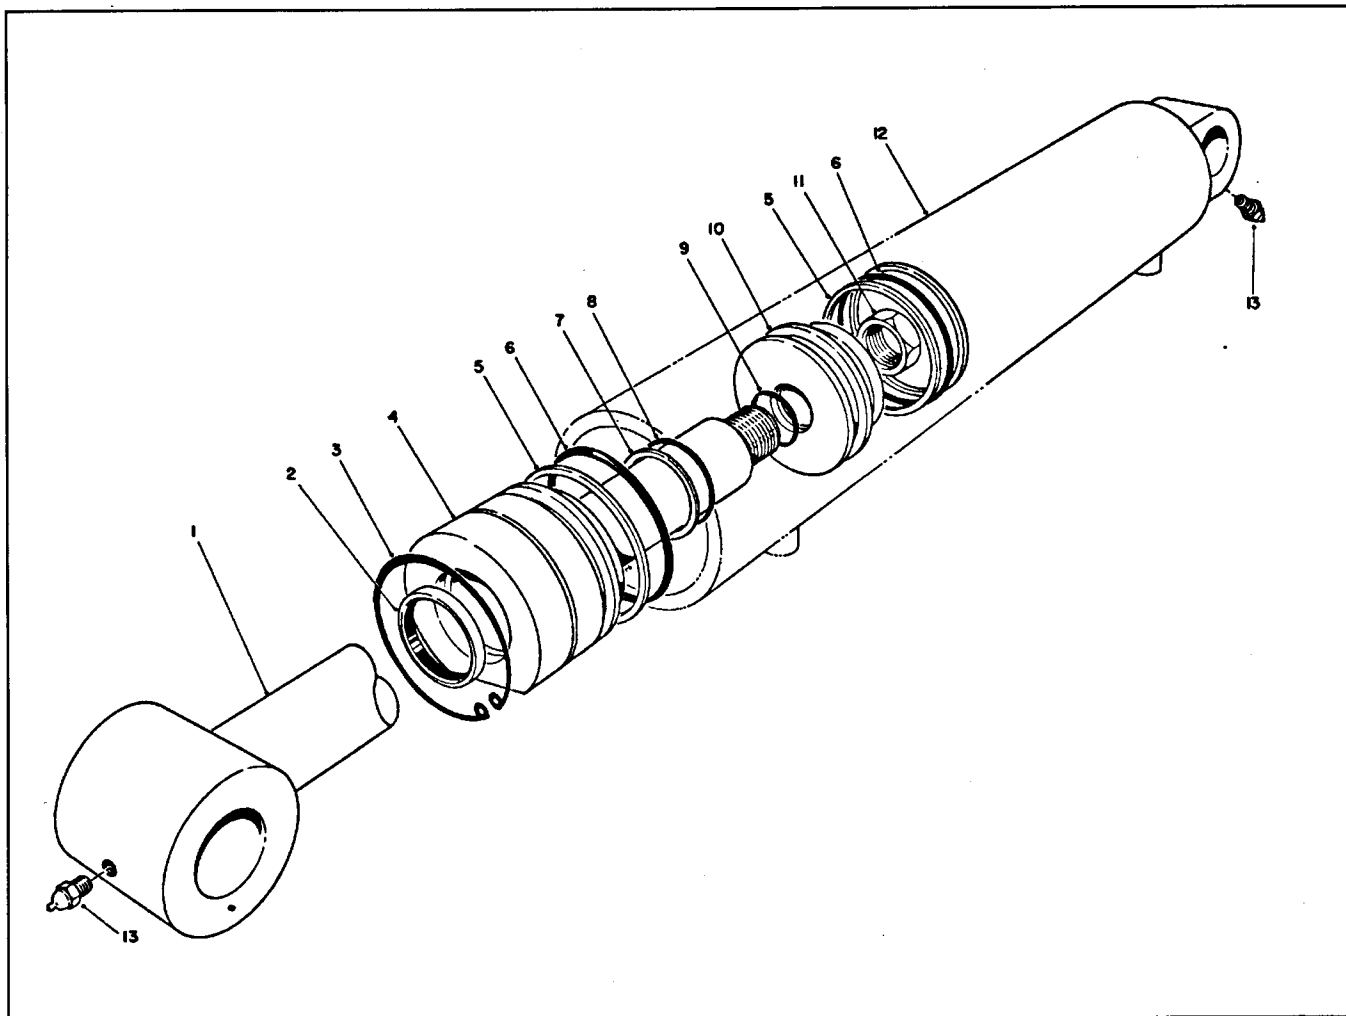

Figure 42
4. Use a snap ring pliers to remove retaining ring (Fig. 42).